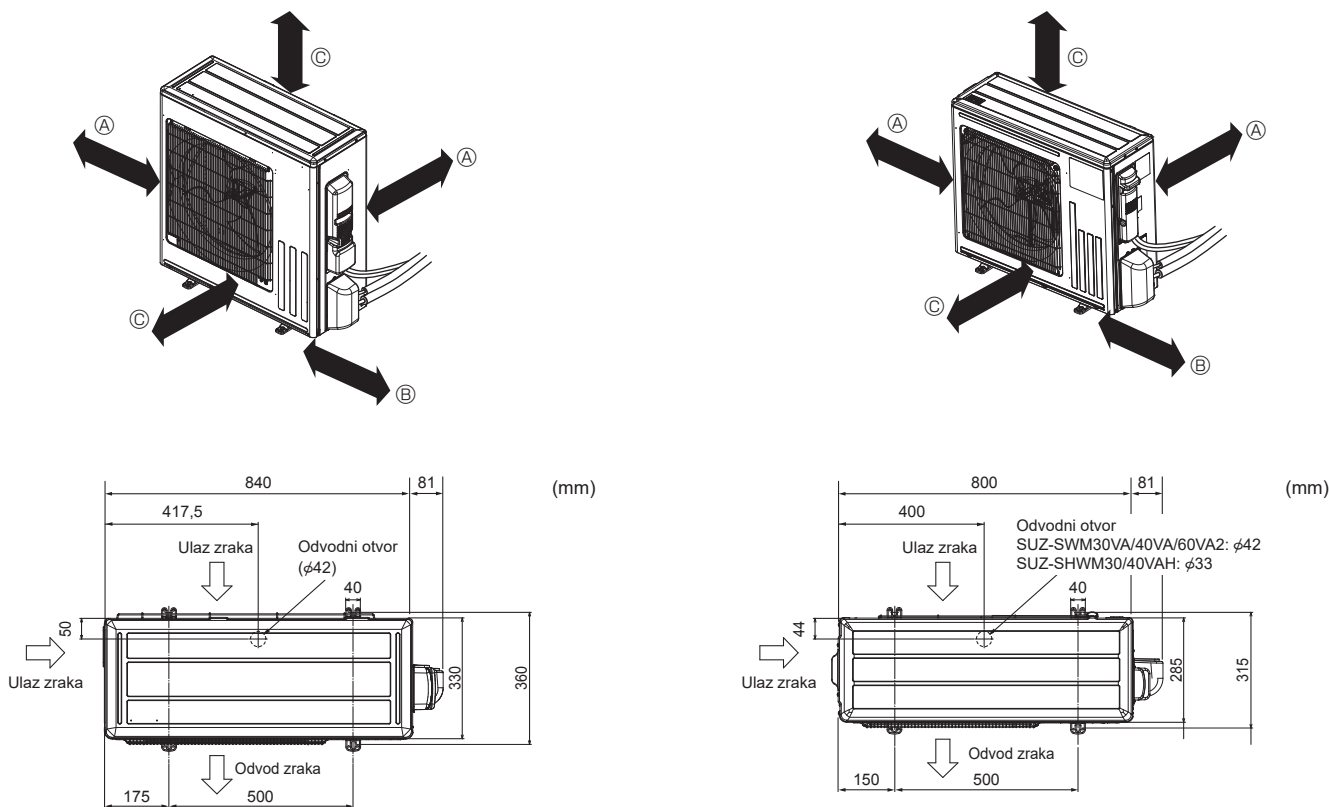

Fig. 3-1
3.1. Vanjska jedinica (Fig. 3-1)